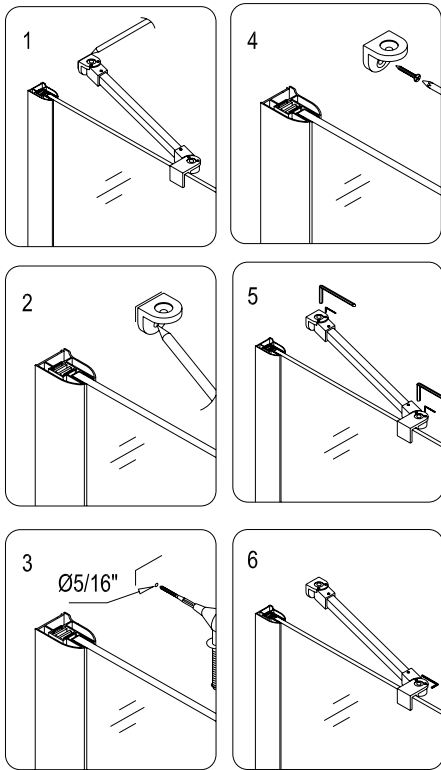

Fig. 3
3. Locate the **Support bar (03)** from the package and loosen the glass holding screw on the gliding channel. Place the **Support bar** with channel end on the glass top edge and the bracket end flat on the wall. Adjust the bar to a proper position and level it horizontally. Hold it firmly and outline the bracket's position on the wall with a pencil. Take off the **Support bar** and remove the bracket from it. Place the bracket against its position on the wall and mark the drill hole. Drill the hole, insert the anchor and attach the bracket onto the wall with the **Screw ST4.2x30 (10)**. Replace the **Support bar** with channel seated on the glass and the other end underneath the bracket. Attach it to the bracket with the set-screw provided. Straighten the bar and fasten both set-screws and the glass holding screw to secure the glass. See fig. 3, 4 for details.